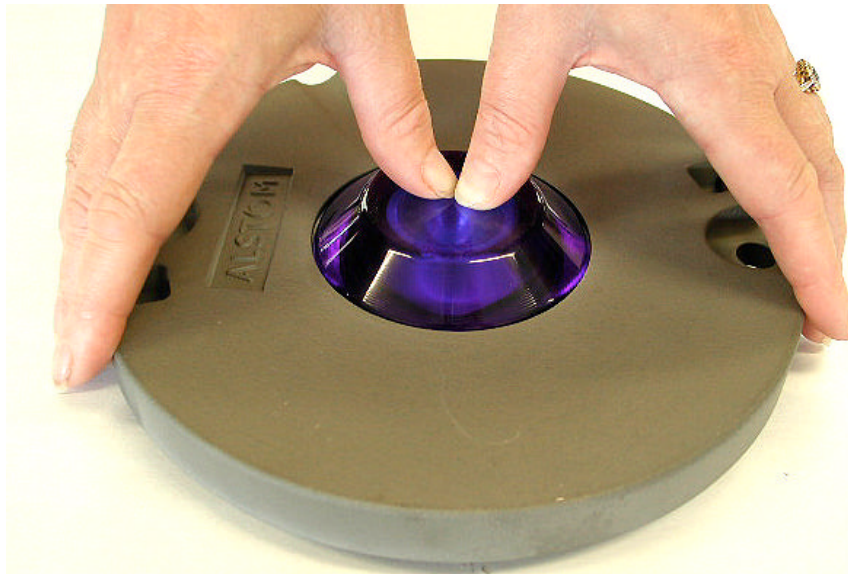

Fig. 10. Removal of prism from body.
- Place both thumbs on the top of the prism dome and press vertically downwards onto the prism/gasket assembly until it is free of the body casting. See **Fig. 10**.